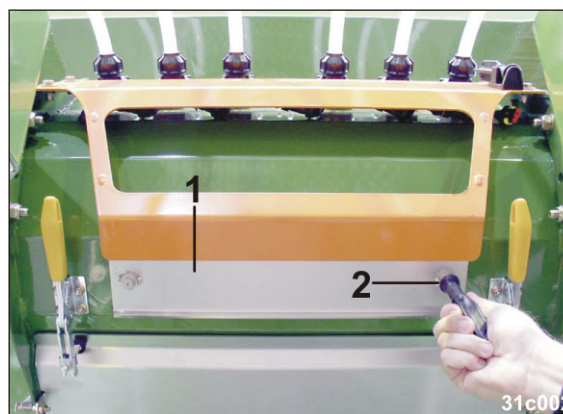

Fig. 261
- 7.2 Open the lock (Fig. 261/1) with the hexagon wrench provided (Fig. 261/2).